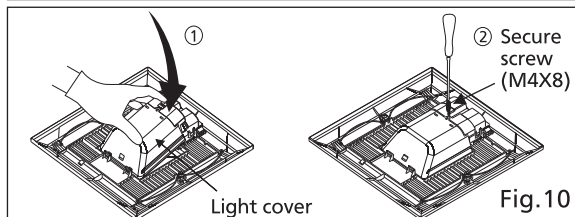

Fig.10
12. Install light cover. (Fig.10)
5. Install light cover. (Fig.10 of page 7)